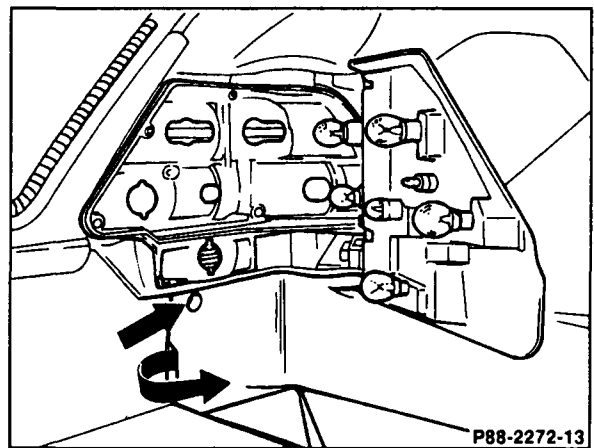

Figure 9
2. Using a plastic wedge, disengage the top and bottom of the side panel (C, Figure 9) and slide out from the rocker panel cover.
1. Open tail lamp cover and remove plastic rivet (arrow, Figure 9).